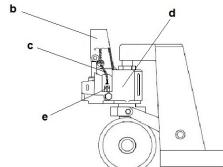

Figure 2
- Pass the chain (c) (Figure 2) of the handle (b) (Figure 2) through the central hole of the pin (a).
- Insert the end of the chain (c) (Figure 2) into the bracket housing (e) (Figure 2) and fasten it with the nut at the end